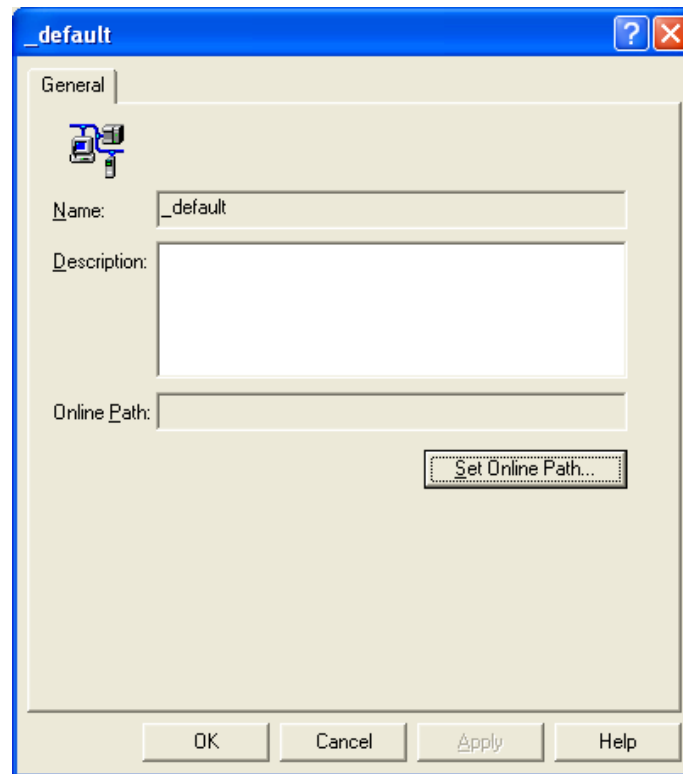

Figure 62: RSNetWorx Set Online Path
- a) Once the EDS files have been registered, navigate to Network->Properties. Click Set Online Path... (see Figure 62).